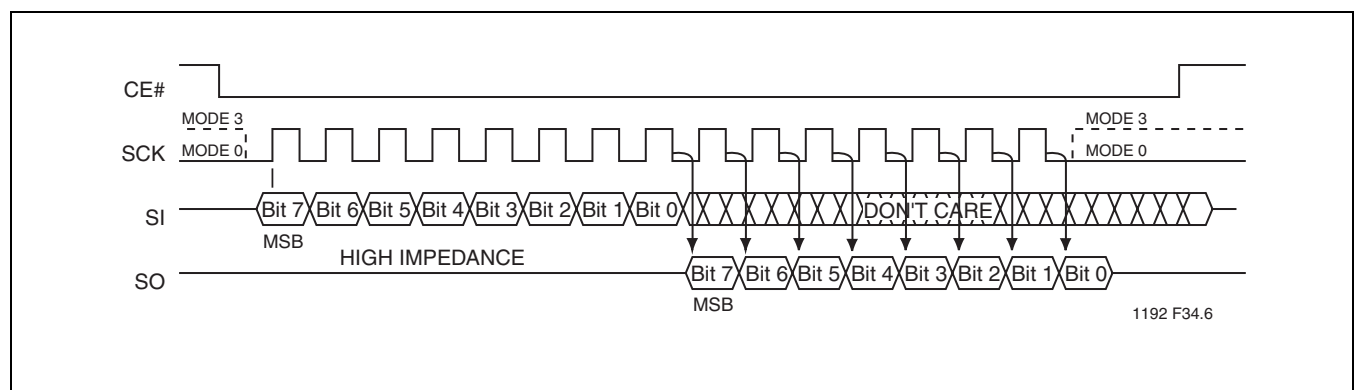

FIGURE 2: SPI PROTOCOL
The SST25VF512 supports both Mode 0 (0,0) and Mode 3 (1,1) of SPI bus operations. The difference between the two modes, as shown in Figure 2, is the state of the SCK signal when the bus master is in Stand-by mode and no data is being transferred. The SCK signal is low for Mode 0 and SCK signal is high for Mode 3. For both modes, the Serial Data In (SI) is sampled at the rising edge of the SCK clock signal and the Serial Data Output (SO) is driven after the falling edge of the SCK clock signal.